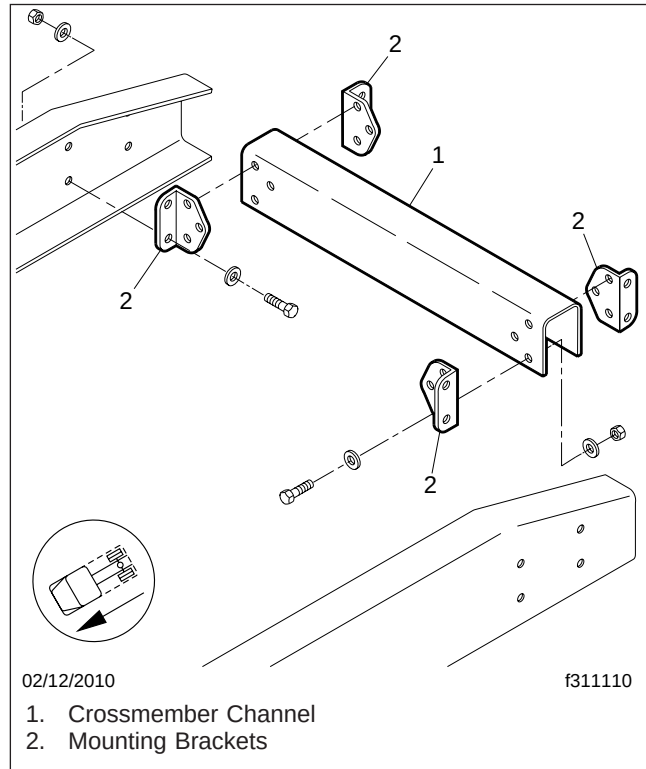

Fig. 10, Five-Piece Rear-Closing Crossmember
3. Remove the fasteners that attach the crossmember to the mounting brackets, and lower the crossmember out of the frame. See Fig. 10.